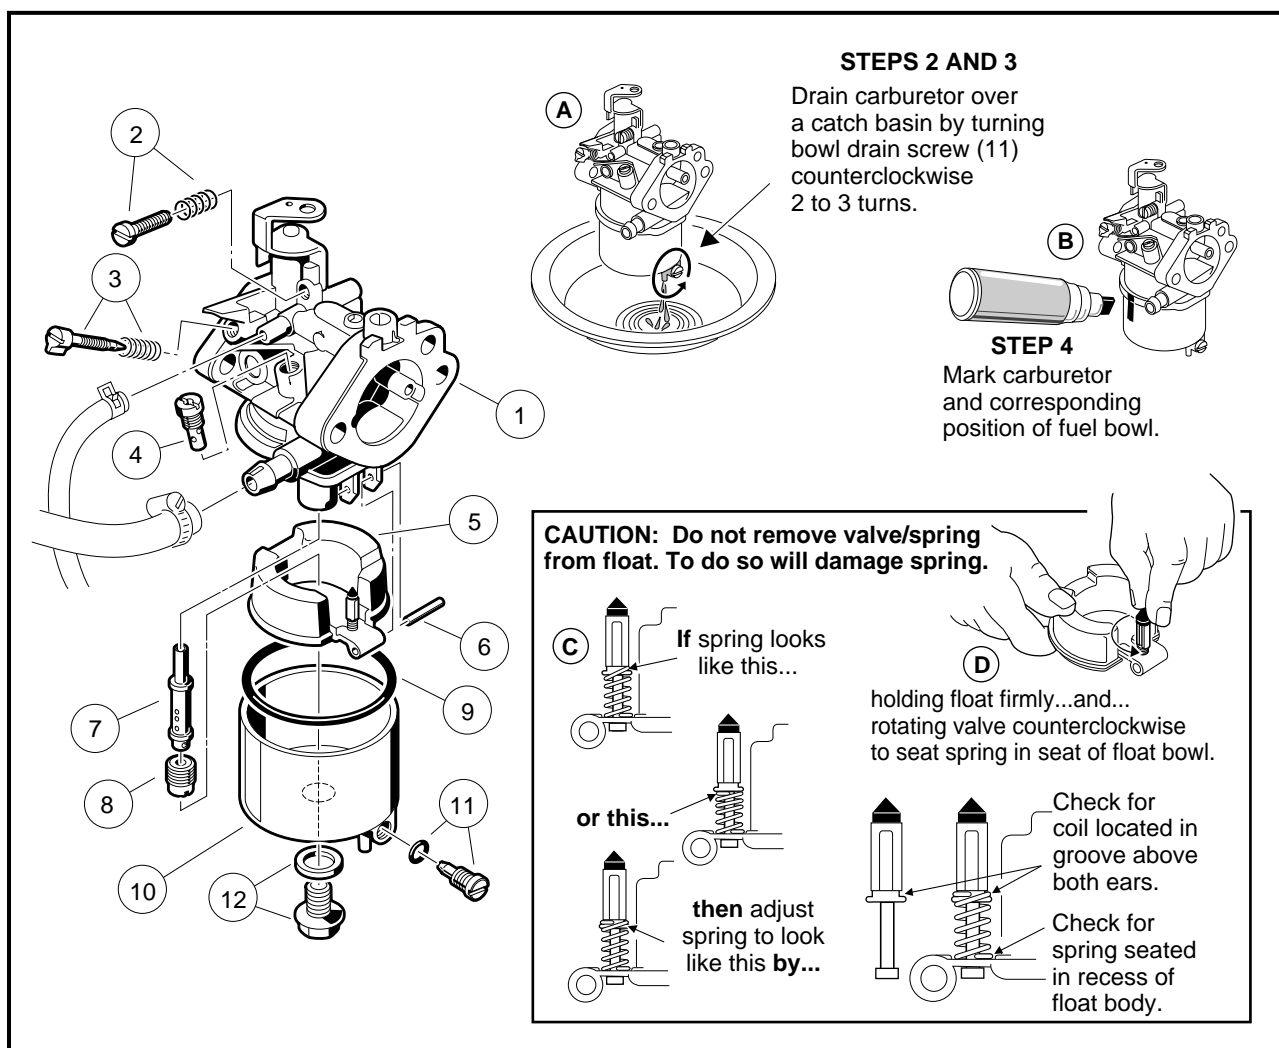

Figure 14-7 Changing the Main Jet
2. Position the carburetor with the drain screw (11) over a catch basin (**Figure 14-7, Page 14-7**).
3. Turn the carburetor bowl drain screw counterclockwise two or three turns and drain all the fuel from the bowl into the catch basin (**Figure 14-7, Page 14-7**). Tighten the drain screw to 10 in-lb (1.1 N·m). Return fuel to the gas tank or dispose of properly.
4. Mark the body of the carburetor and the carburetor fuel bowl with an indelible ink marker so that, after removal, the bowl can be installed again in the same position (**Figure 14-7, Page 14-7**).
- Remove the carburetor fuel bowl retaining screw and washer (12), then remove the fuel bowl (10) and clean it with a nonflammable solvent (**Figure 14-7, Page 14-7**). **See following NOTE.**
NOTE: Make sure the fuel bowl gasket (9) remains properly seated in the carburetor body when the fuel bowl is removed (**Figure 14-7, Page 14-7**).
- Remove the main jet (8) from the carburetor body and discard it (**Figure 14-7, Page 14-7**).
NOTE: Make sure the fuel nozzle (7) does not fall out of the carburetor body after removal of the main jet. This is best accomplished by positioning the carburetor upside down during main jet removal (**Figure 14-7, Page 14-7**).
NOTE: Inspect the main jet nozzle (7), and pilot jet (4) to ensure they are free from contamination. Replace any part that is clogged with contamination. Replace the float if it is damaged, or if the float valve is damaged or worn. Examine the float valve/spring assembly to make sure the spring is installed correctly (**Figure 14-7, Page 14-7**).